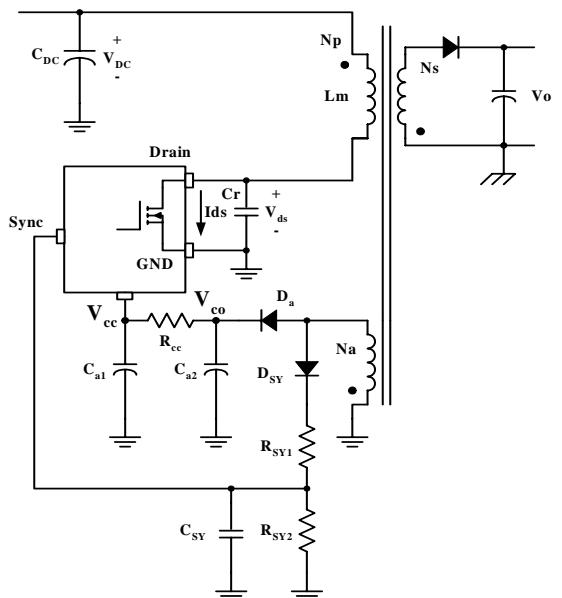
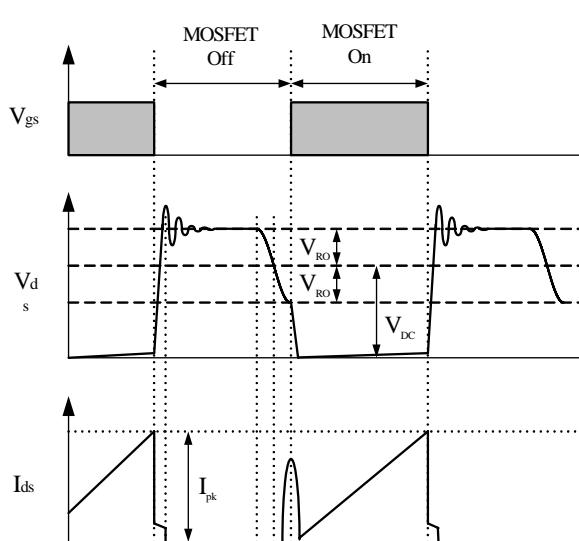
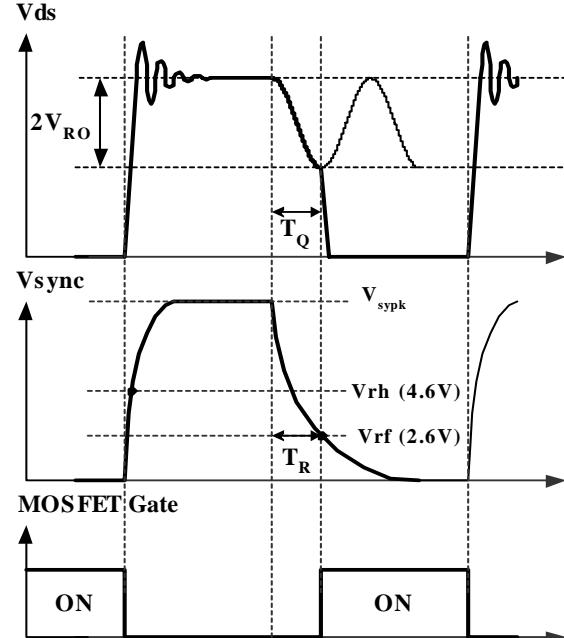

Figure 6. Synchronization Circuit
Figure 7. Quasi-resonant Operation Waveforms
Figure 8. Normal Quasi-Resonant Operation Waveforms
2. Synchronization: The FSCQ-Series employs a quasi-resonant switching technique to minimize the switching noise and loss. In this technique, a capacitor (C_r) is added between the MOSFET drain and the source as shown in Figure 6. The basic waveforms of the quasi-resonant converter are shown in Figure 7. The external capacitor lowers the rising slope of the drain voltage to reduce the EMI caused when the MOSFET turns off. To minimize the MOSFET's switching loss, the MOSFET should be turned on when the drain voltage reaches its minimum value as shown in Figure 7.
The minimum drain voltage is indirectly detected by monitoring the Vcc winding voltage as shown in Figure 6 and 8. Choose voltage dividers, R_{SY1} and R_{SY2} , so that the peak voltage of the sync signal (V_{sypk}) is lower than the OVP voltage (12V) to avoid triggering OVP in normal operation. It is typical to set V_{sypk} to be lower than OVP voltage by 3-4 V. To detect the optimum time to turn on MOSFET, the sync capacitor (C_{SY}) should be determined so that T_R is the same with T_Q as shown in Figure 8. The T_R and T_Q are given as, respectively